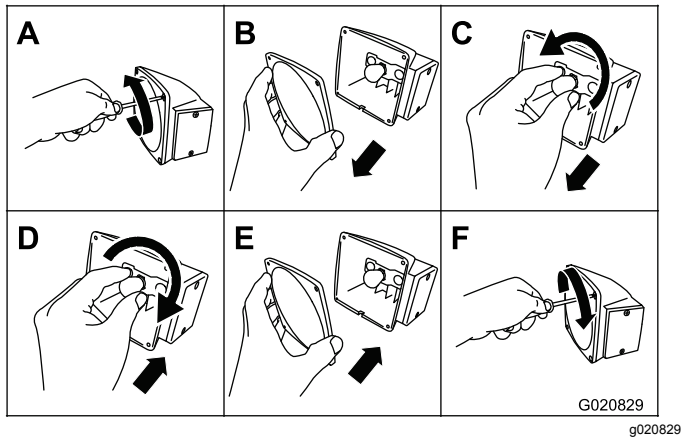

Figure 53
1. Use a screwdriver to remove the 4 screws from the large square lens on the light (Figure 53).
2. Remove the lens (Figure 53).
3. Push and twist the bulb counterclockwise to remove it from the socket (Figure 53).
4. Push a new 1157 bulb into the socket and then twist it clockwise (Figure 53).
5. Install the lens and the 4 screws (Figure 53).